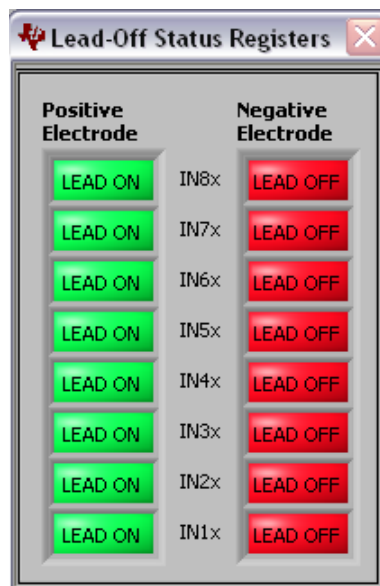
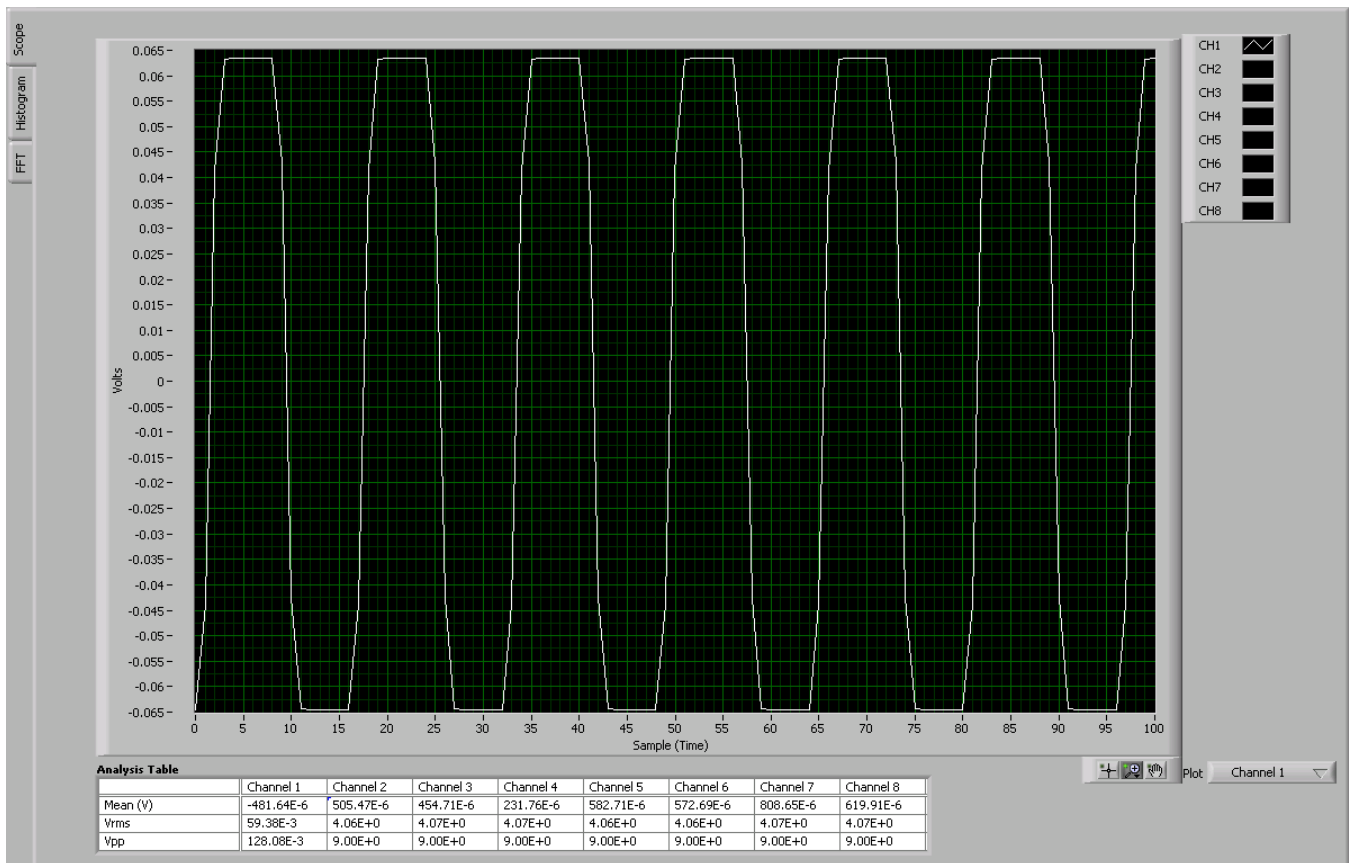
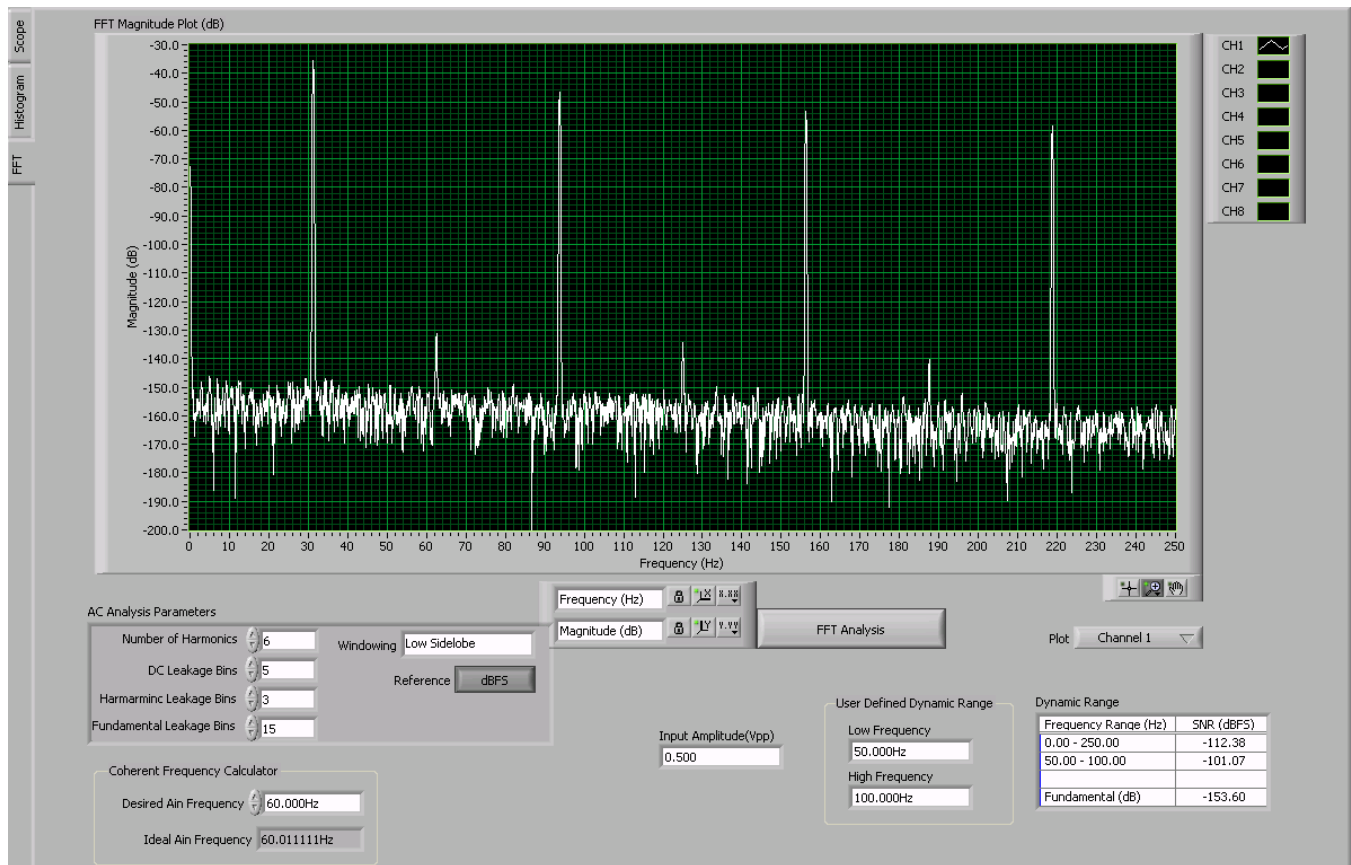

Figure 43. Lead off Status Registers
Figure 44. Scope tab for Impedance Measurement at 31.25Hz
Figure 45. FFT Analysis for Impedance Measurement at 31.25Hz
- Step 4. The software has an option where the LOFF_STATP and LOFF_STATM Registers are continuously polled (set the *Read Status Registers* switch as shown in shown in Figure 43). This option allows the user to see the lead-off detection scheme work in real time. Figure 44 shows a case for which only positive electrodes are connected.
As an example Figure 44 shows the snapshot of the scope with 5K impedance on each source with 6μA of lead-off current at 31.25Hz. We expect a theoretical peak to peak voltage of 120mV. The observed peak-to-peak voltage is 128mV which is within the tolerance specification of current source. The results can also be analyzed in frequency domain using the FFT analysis tab as shown in Figure 45. The magnitude of the fundamental component will be directly proportional to the electrode impedance being measured.